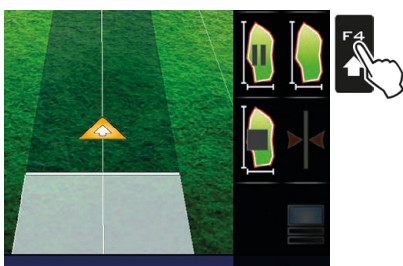

Fig. 402
- Press **FUNC** and then **F4**: the field edge will no longer be drawn (Fig. 402);